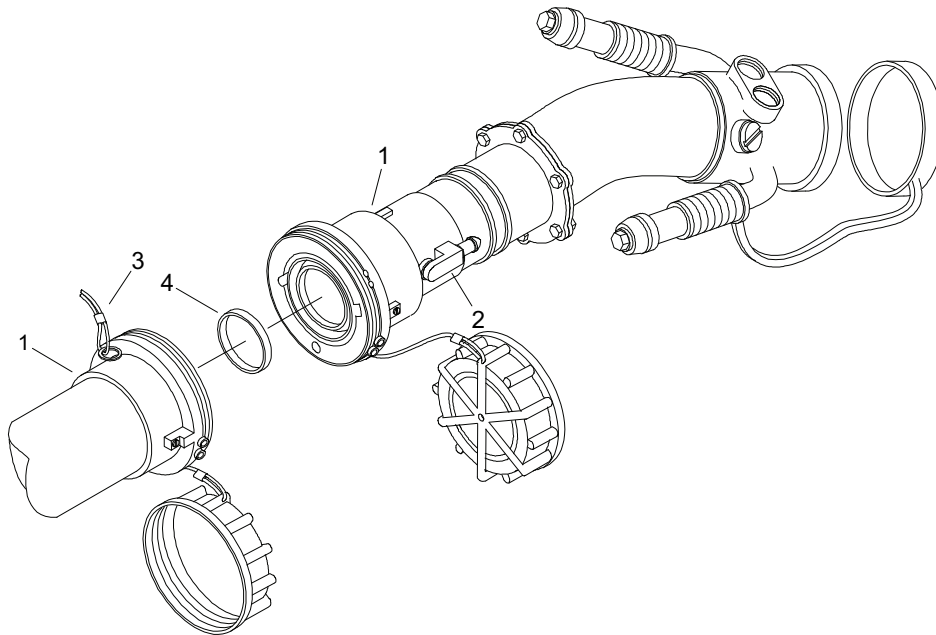

Figure 3. Fuel System Coupling With Valved Unisex Coupling Half.
1. Place drip pan under valved quick disconnects coupling halves (Figure 3, Item 1) to be disconnected.
2. Position shutoff valves (Figure 3, Item 2) in the closed position.
3. Pull ring (Figure 3, Item 3) while rotating one unisex coupling half (Figure 3, Item 1) counterclockwise.
- a. Disconnect unisex coupling half (Figure 3, Item 1).
- b. Remove and discard defective gaskets (Figure 3, Item 4).
5. Install gasket (Figure 3, Item 4) in quick disconnect coupling half (Figure 3, Item 1).
- a. Install new gasket (Figure 3, Item 4) on quick disconnect coupling half (Figure 3, Item 1).
- b. Align quick disconnect coupling half (Figure 3, Item 1) together.
- c. Rotate one quick disconnect coupling half (Figure 3, Item 1) clockwise to connect quick disconnect coupling halves (Figure 3, Item 1).
- d. Ensure quick disconnect coupling halves (Figure 3, Item 1) are securely connected.
- e. Position shutoff valve (Figure 3, Item 2) in the open position.